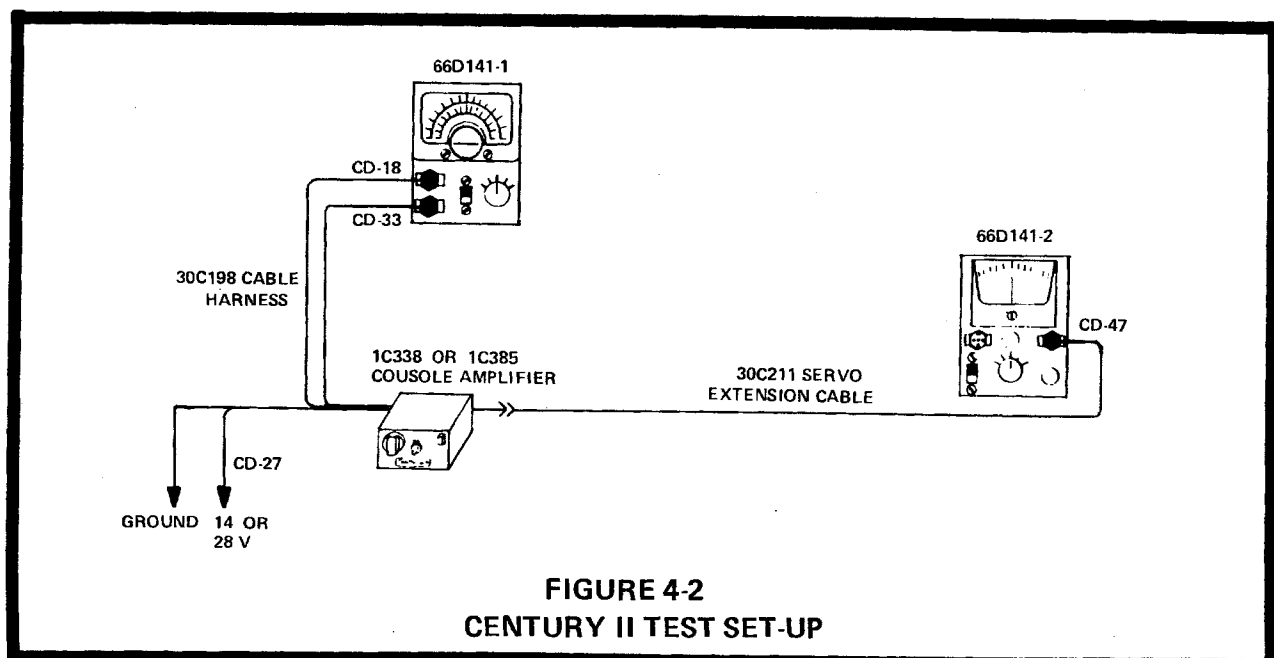

FIGURE 4-2
1. Connect test equipment as shown on Fig. 4-2.
NOTE: REFER TO FIGURE 4-2 FOR AMPLIFIER TEST SET-UP. LIMIT ADJUSTMENTS MUST BE SET FOR 20° BANK LIMITS IN THE HEAD-ING MODE. SET D. G. SUBSTITUTE TO 10° LEFT. VOLTAGES AND WAVEFORMS SHOULD BE ± 20 %.